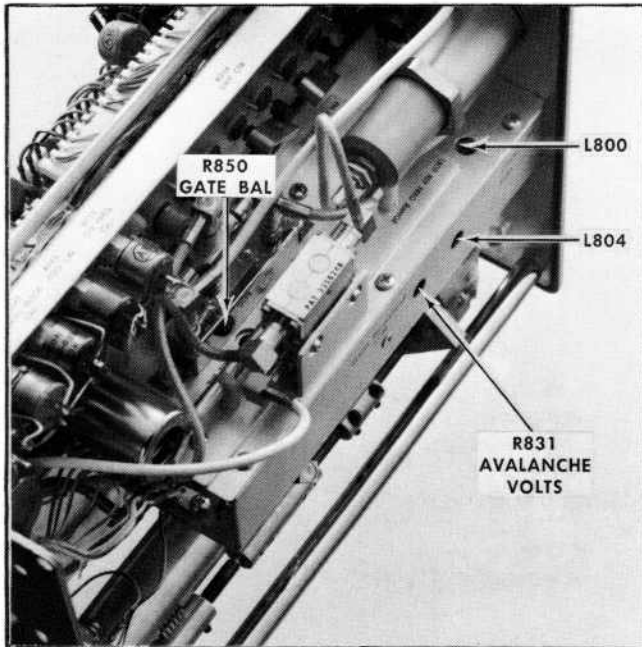

Fig. 5-15. Phase lock circuit adjustments.
- ADJUST**—Insert a tuning tool (Tektronix Part No. 003-0310-00) into the access hole in the side of the phase lock assembly (Fig. 5-15) and adjust L804 so the oscillator starts
i. ADJUST—L800 (Fig. 5-15) until the oscillator frequency shift, over the range of the INT REF FREQ control, is 1.2 kHz (2.4 cm).
(1) Apply the 1 MHz markers from the Type 1L40 to Channel 1 Input of a Dual-Trace Amplifier Plug-In Unit (Type 1A1) and 1 μs markers from the Time-Mark Generator (Type 184) through a 10X attenuator and a 50 Ω termination to Channel 2 Input of the Dual Trace Amplifier.
(2) Adjust the deflection sensitivity for both channels of the Dual-Trace Amplifier to equalize the deflection amplitude, then set the Mode switch to Add.
(3) Set the test oscilloscope Time/Cm to 1 ms and adjust the triggering controls for a triggered display.
(4) Turn the Type 1L40 INT REF FREQ control to the initial on position (ccw) and check the beat frequency display for no more than 10 cycles in 10 cm (reference frequency $1 \text{ MHz} \pm 1 \text{ kHz}$).
d. (This step is a Calibration adjustment. Proceed to part (e) for Performance Check procedure.) **ADJUST**—the Avalanche Volts R831 (Fig. 5-15) from a fully ccw position clock-